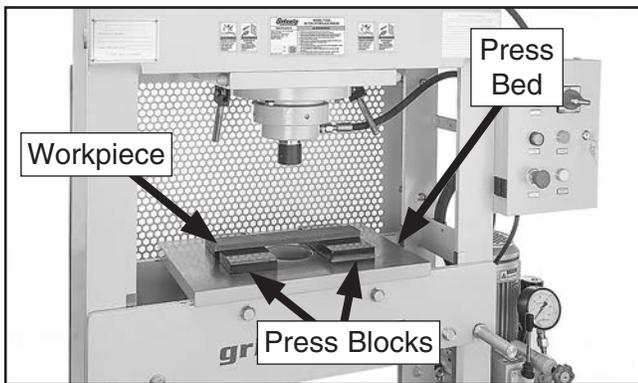

Figure 17. Workpiece positioned on press blocks.
3. Place press blocks on press bed, and center workpiece on press blocks (see **Figure 17**).
2. Loosen both cylinder locks, then move ram till it is directly above workpiece (see Figure 17).